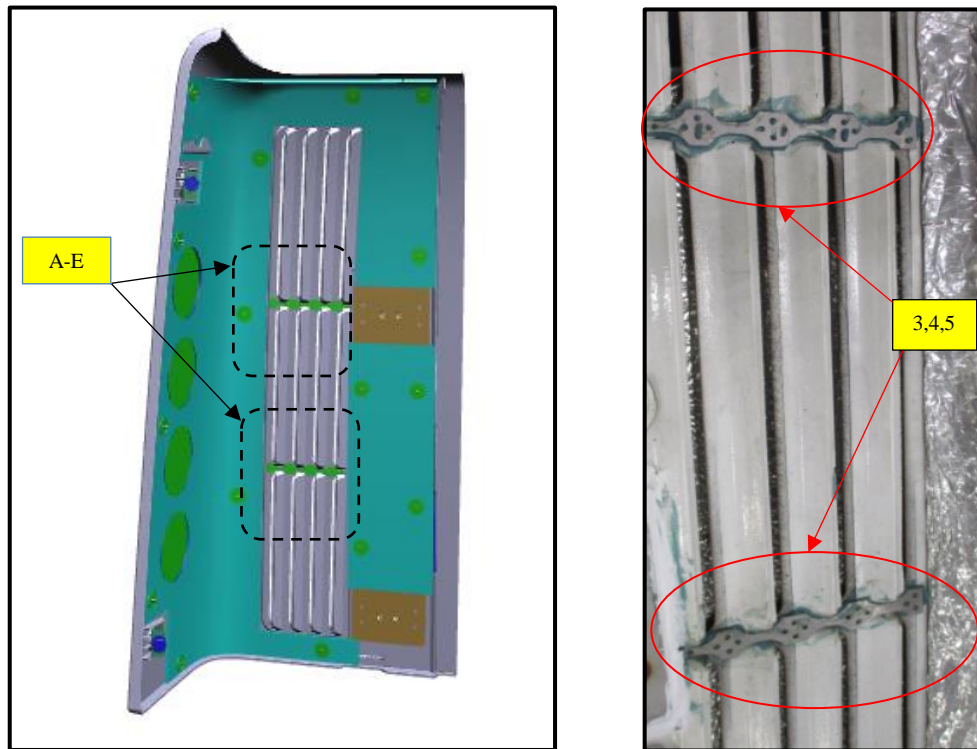

Figure 4: Louver Door Stiffener Bracket Preparation Location reference.
- a. Wipe down all contact surfaces with clean lint free cloth, ensure that surface area is free of grease and debris. See figure 4.
- d. Apply Plexus MA920 Adhesive #5 (NF PN: 067197) to indicated surface. See figure 4.
👉 NOTE: When using a new nozzle dispense adhesive the length of the nozzle before applying to primed surface. Within 4 minutes of applying the plexus adhesive assemble the stiffener bracket item #3 (NF PN: 811052) to the panel. See figure 4.